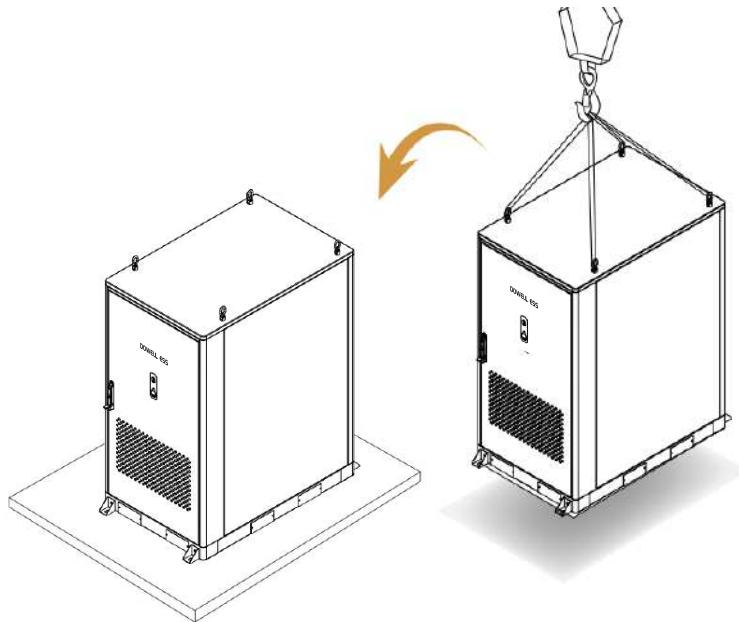

Figure 4-2 Hoisting diagram
- 2. The hoisting process must be carried out in strict accordance with the hoisting diagram, see Figure 4-2 below for details;